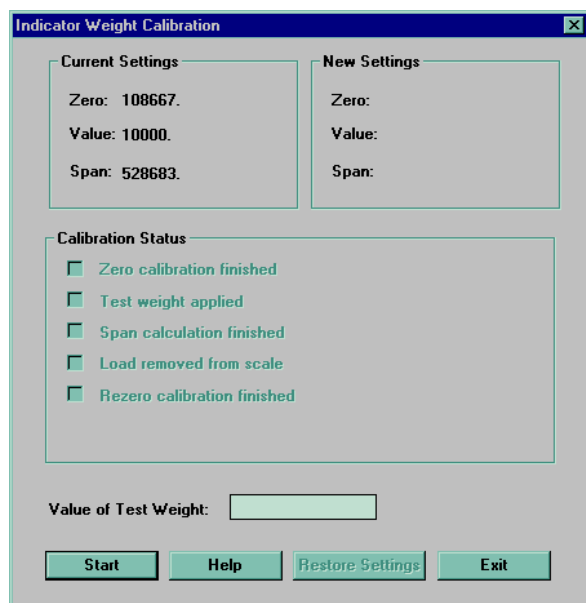

Figure 4-3. Revolution Calibration Display
3. Revolution uploads calibration data from the indicator then presents the information in a display like that shown in Figure 4-3.